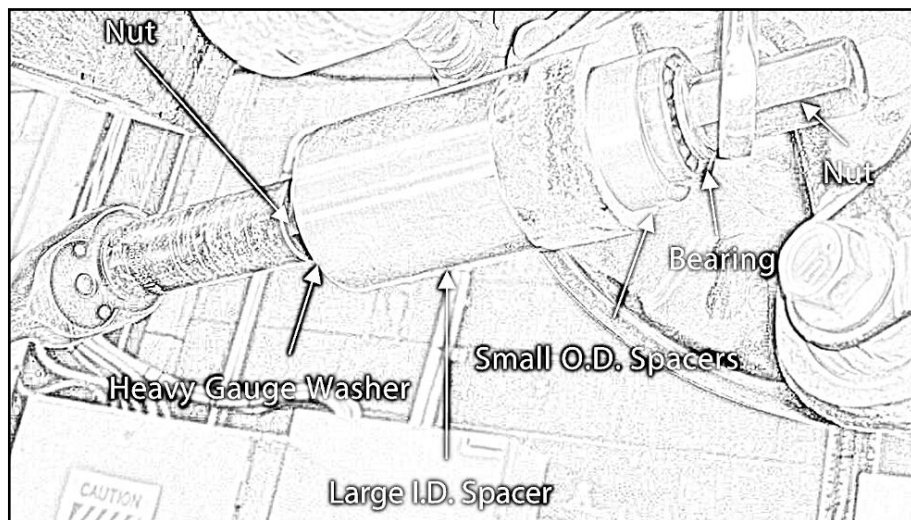

Figure 2: Press Tool Setup (Illustrative Purpose)
4. Setup press tool assembly to extract the factory bushes (refer Figure 2 below for example).